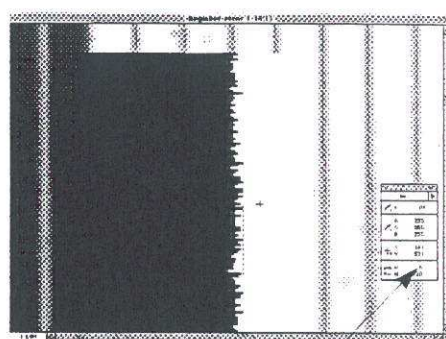

Fig. 5
- 17 • Choose the largest irregularity, select **show info.** and read the **W** value in the window (fig. 5).